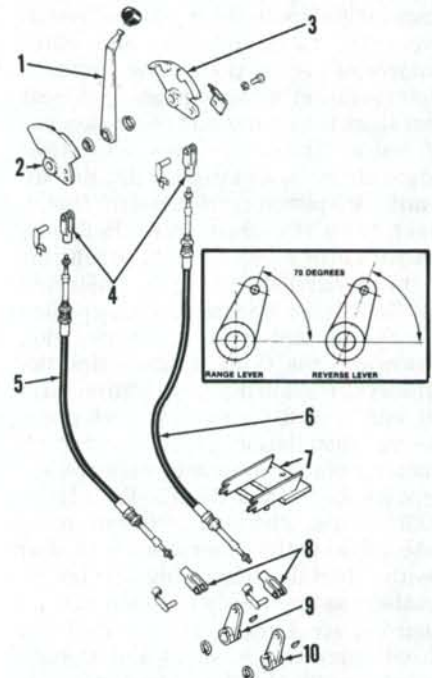

Fig. 96—Exploded view of high-low range and reverse shift linkage on Model 2090 and 2290 tractors so equipped.
yokes (8—Fig. 96). Place the range control lever (1) in neutral position. Align the reverse quadrant (3) and range quadrant (2) slots. Place the range and reverse shift levers (9 and 10) in neutral position (70 degrees above horizontal as shown in insert Fig. 96). Adjust position of cable yokes so that yoke holes align with shift lever holes. Install yoke pins and secure yokes.